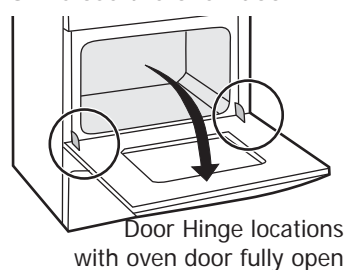

Figure 1
1. Open oven door completely (horizontal with floor - See Figure 1).
3. Fully open the oven door (horizontal with floor- See Figure 1).